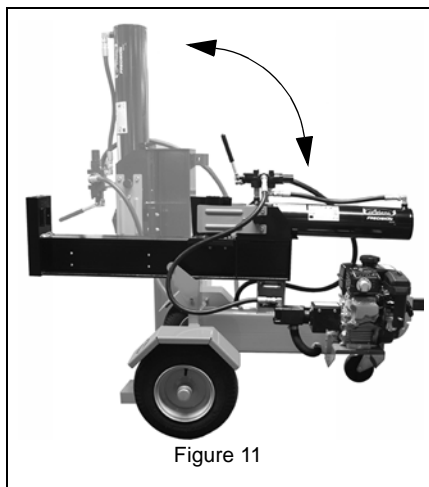

Figure 11
3. Lift beam until it rotates to vertical position (Figure 11).